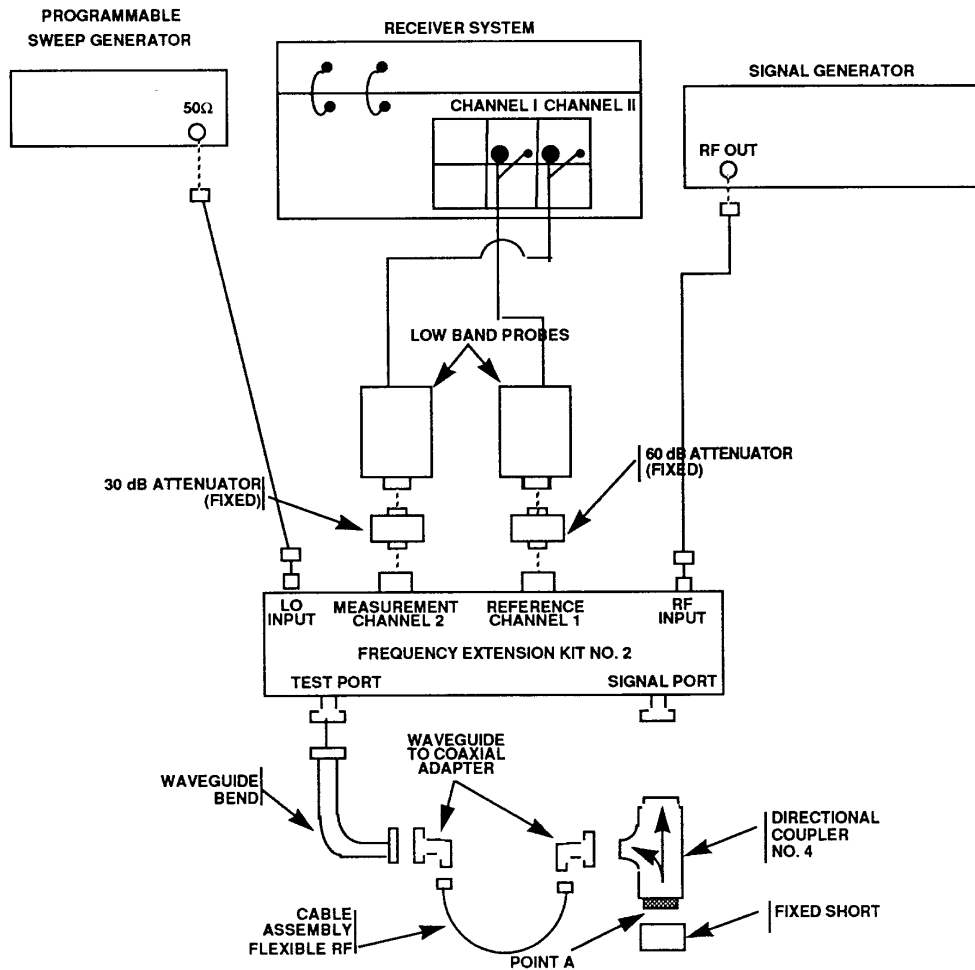

Figure 6. VSWR waveguide (26.5 to 40 GHz)
(46) Repeat technique of (37) through (45) above for remaining cardinal test point frequencies recorded in 7c above.
(47) Connect equipment as shown in figure 6 and allow equipment to warm up for 3 hours.
(48) Refer to cardinal test point frequencies determined in 7c above. Record these values.
(54) Disconnect fixed short from directional coupler No. 4 (fig. 6).
(55) Zero power meter No. 1 and connect TI to directional coupler No. 4, point A (fig. 6). Record receiver system indication as return loss.
(56) Remove TI from directional coupler No. 4 and connect fixed short to directional coupler No. 4, point A (fig. 6).
(57) Repeat technique of (53) through (56) above two more times and average values recorded in (55) above. Determine VSWR using appendix B. VSWR will be within the limits listed in appendix A.
(58) Repeat (49) through (58) for remaining cardinal test point frequencies recorded in (48) above.